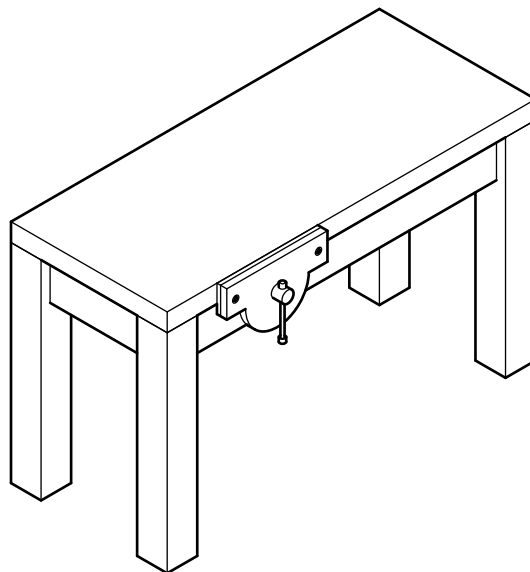

Fig. 2
- 2 Fig. 2 shows a workbench.
Use sketches and notes on Fig. 2 to show how the frame could be made more rigid. [3]